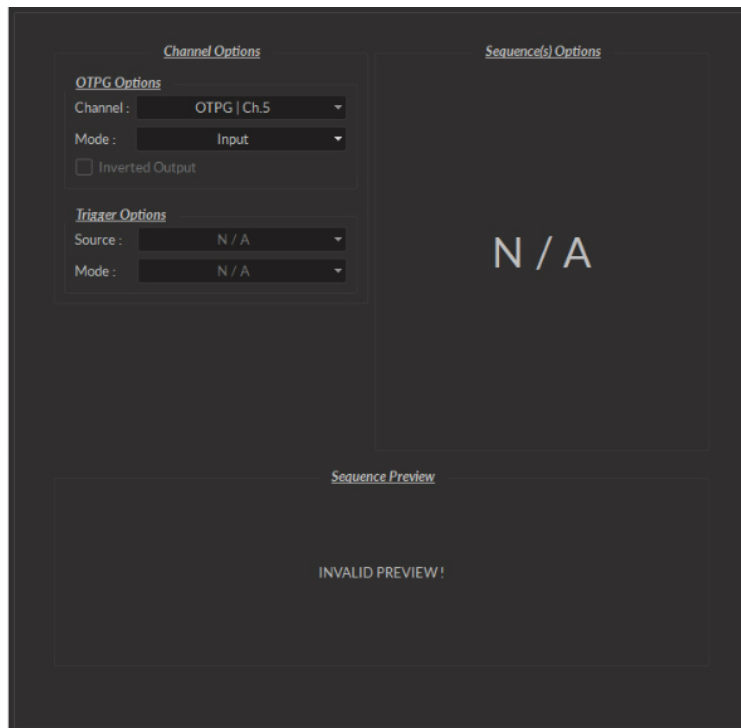

Figure 2.4: Channels Configuration, Input Interface
- The **Input** mode (Fig 2.4) records a signal as long as there is a high TTL signal on the chosen console channel. The channel can then be used as a trigger source for all the other channels of the console. No **Sequence Options** or **Sequence Previews** are available for this mode.